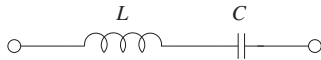

Figure P2.21 Inductor and capacitor in series.
- 2-21.** Consider an inductor L and a capacitor C connected in series as shown in Fig. P2.21. The total reactance X is given by $X = \omega L - \frac{1}{\omega C}$, where ω is the angular frequency in rad/s.